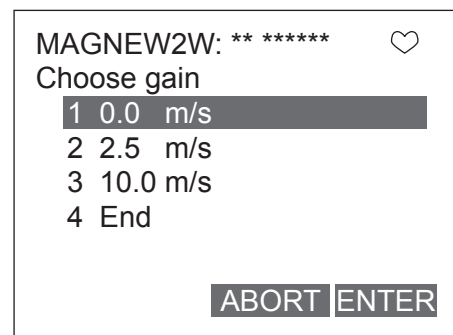

Figure 7-48
3. Once the display as shown in Figure 7-48 appears, move the arrow key up or down to select a gain to adjust, and then press F4 (ENTER). This time, select 0 m/s.